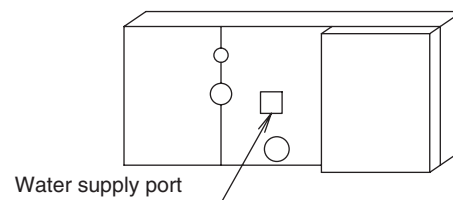

Fig. 13
- Open the water supply port, add approximately 1 liter of water slowly into the drain pan and check drainage flow. **(Refer to Fig. 13)**